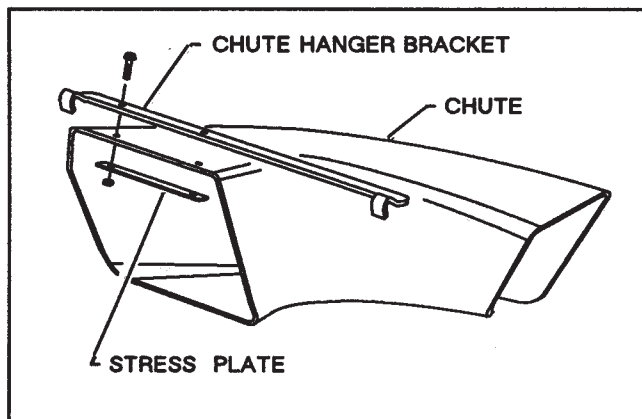

Figure 1
1. Secure chute hanger bracket to discharge chute with stress plate, (2) washer head capscrews and locknuts as shown in fig.1.